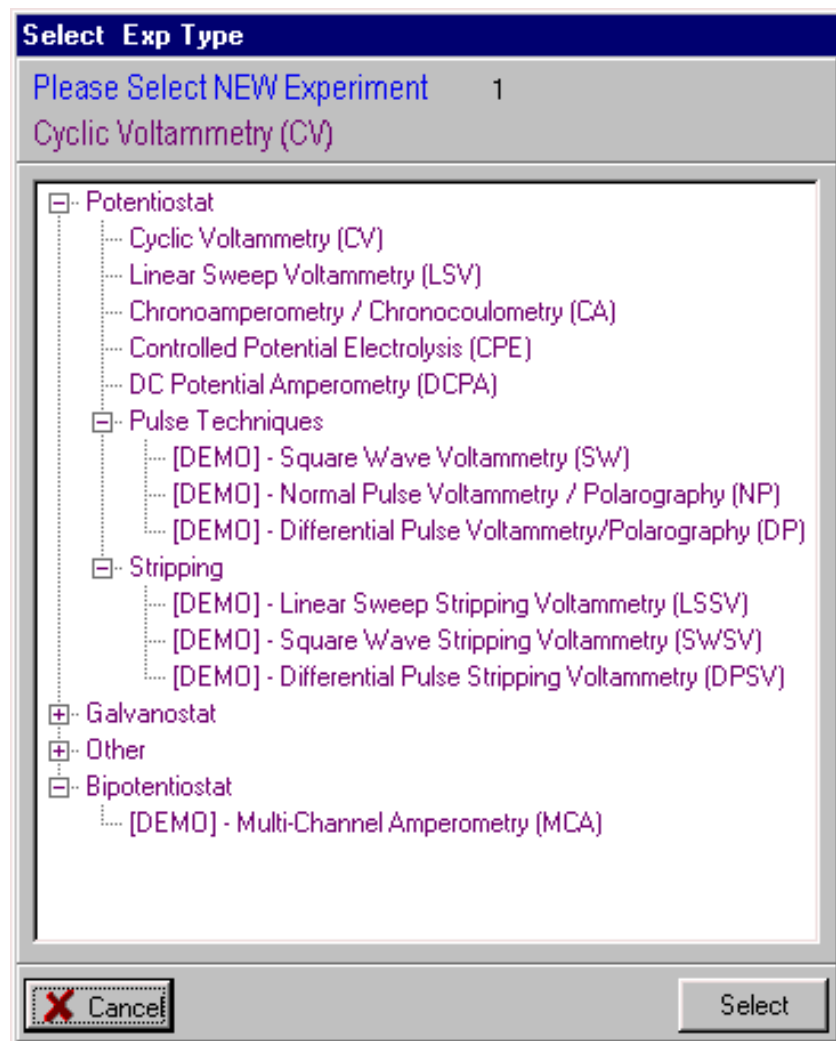

Figure 1. Technique list.
3. Click **New** in the **File** menu (or use the **F2** key) to set up a new experiment. The list of available techniques is displayed (**Figure 1**) (this list can also be accessed using **Select New Experiment** in the **Experiment** menu). It should be noted that there are some techniques that are labeled as DEMO. This label indicates that this technique is NOT active on this particular epsilon. However, it is possible to load a data file for that technique to examine the parameters and the typical output. If the **RUN** button is clicked when a DEMO data file is displayed in the active window, an error message will be shown. The technique list shown in **Figure 1** is the list for the basic epsilon (i.e., pulse techniques, stripping techniques, and multi-channel amperometry are NOT available).